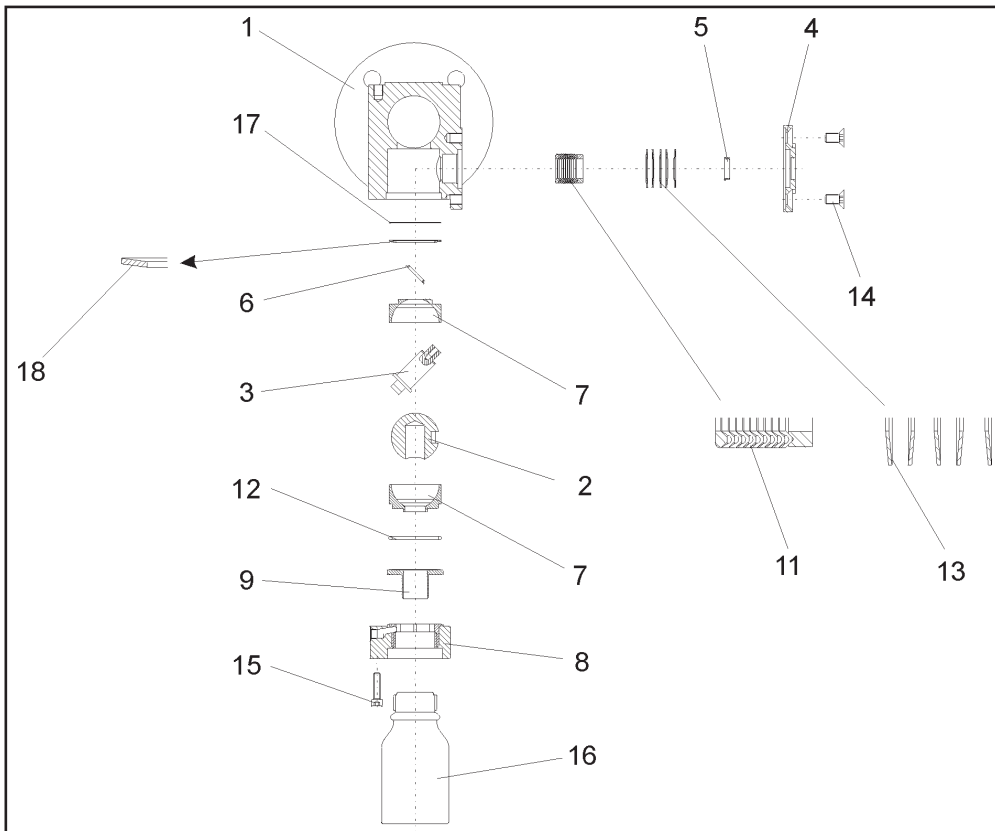

Fig 3 - Exploded drawing of a sampling valve series 27a
The sealing ring (17) and the spring washer (18) are inserted into the body. For the exact positioning of the spring washer, refer to the explosion drawing (Bild 3) . The bearing bush (6) is pressed into its intended position, for the subsequent
The PTFE-V-ring packing (11) is inserted together in the body bore in the following order; PTFE-bottom ring, PTFE-V-rings, and steal-V-ring. Following this, insert the spring washer set (13). For exact positioning and locating of the V-ring packing and spring washers, refer to the explosion drawing (Fig. 3)